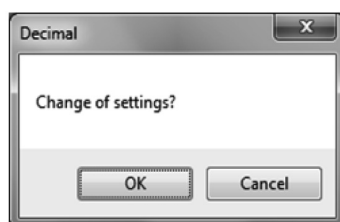

Fig.86
- ⑤ After all settings are complete, click the "OK" button to display a message box (Fig. 86).